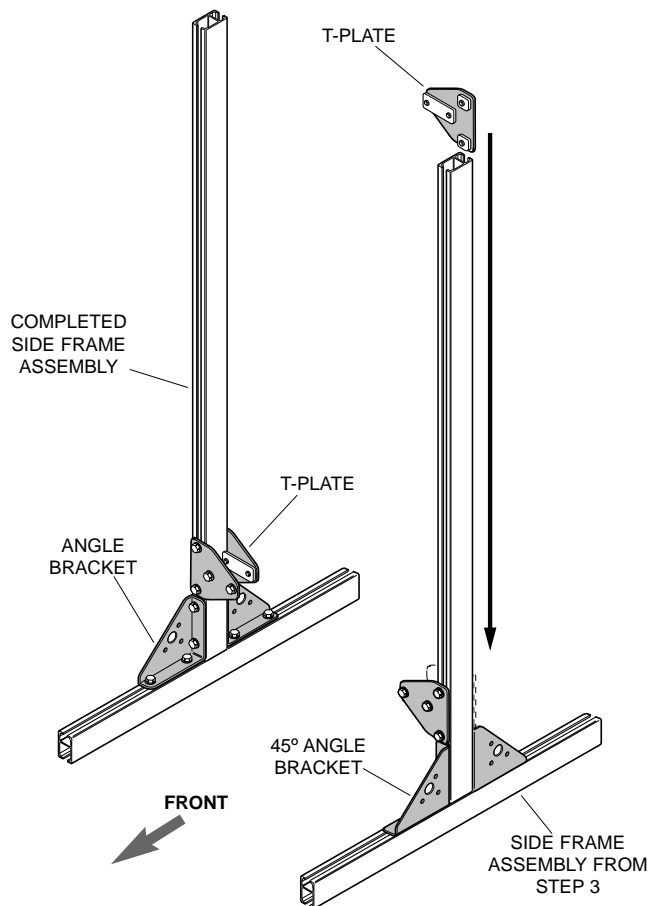

Figure 4.
4. Slide a T-plate into each side of uprights (Fig. 4). Allow T-plate to rest on angle bracket. Do not tighten until cross member is installed.